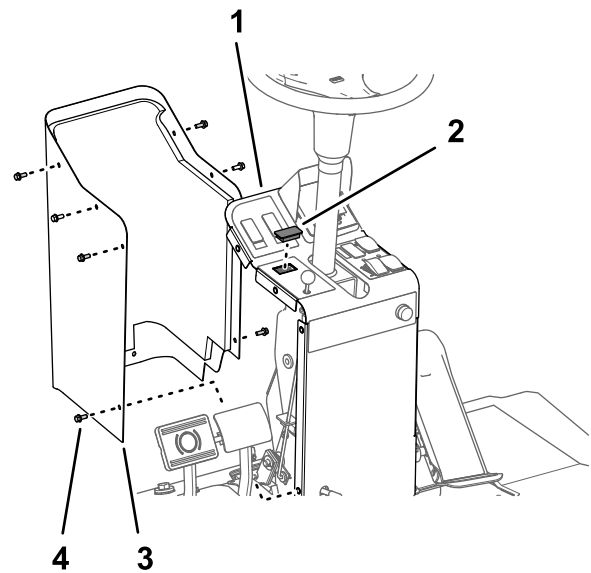

Figure 8
1. Remove the 6 flange-head screws (1/4 x 5/8 inch) that secure the cover to the steering tower, and remove the cover (Figure 8).
2. From below the panel of the steering tower, remove the dash plug for the steering switch from the steering tower as shown in Figure 8.